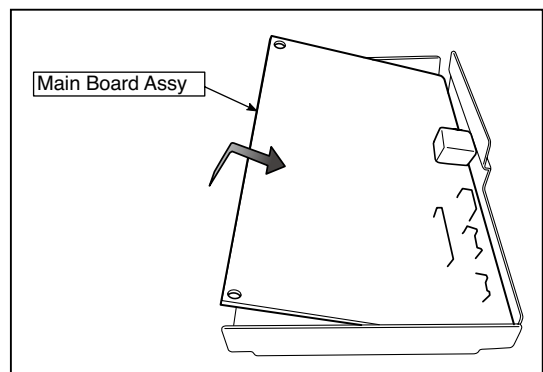

Fig.5
5. When replacing the Main Board Assy shown in the figure 5, insert the Main Board Assy from the oblique direction so that the parts mounted at the rear of the Main Board are not damaged.